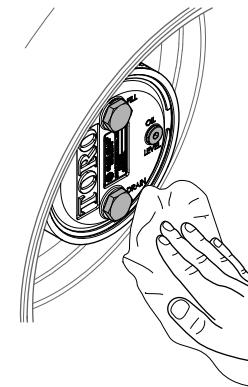

Figure 131
3. Wipe clean the planetary and brake housings (Figure 131).